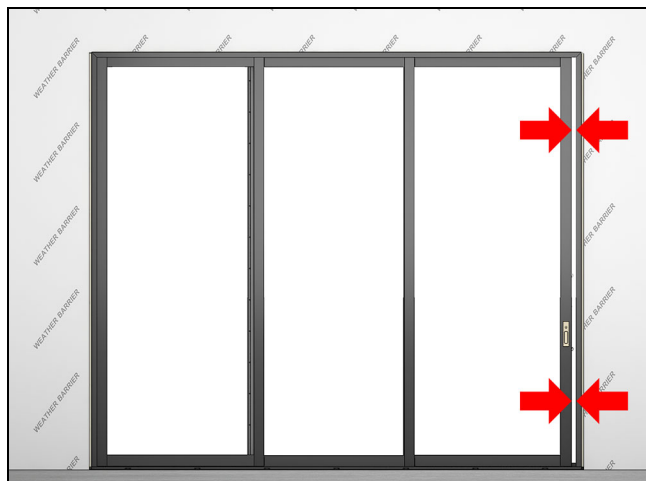

Figure 143
6. Recheck for an even reveal and repeat the previous steps if necessary. See Figure 143.